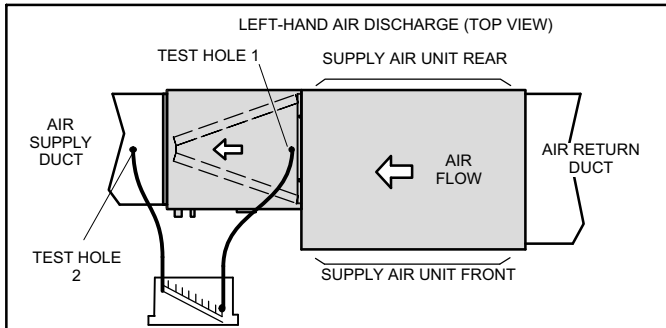

Figure 15. Static Pressure Test
A static pressure reading must be taken to see if the pressure drops are within the proper range. See figure 15 to see for an example to obtain an accurate reading.
To ensure accuracy, test the air on both sides of the coil (figure 15 indicates the two test hole locations).
1. Drill a 5/16" (8 mm) test hole in the coil case 1" from the furnace flange (figure 15, test hole 1).
2. Drill a 5/16" (8 mm) test hole into the air supply duct connected to the coil. (test hole 2 in figure 15).